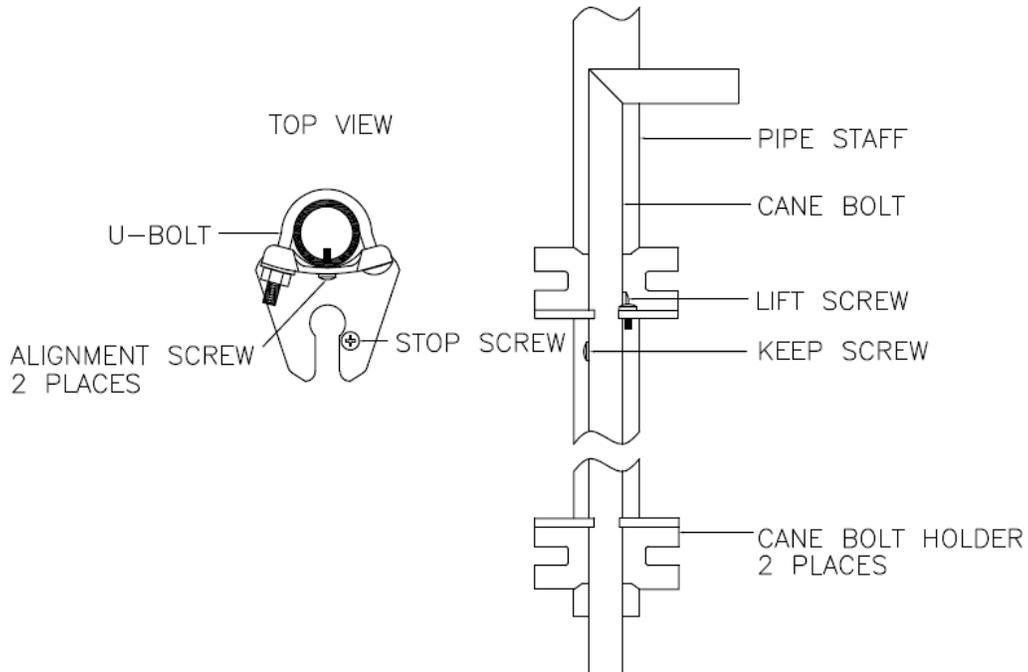

FIGURE 3
5. One pipe staff is used for the leading edge and has no alignment holes. Alignment holes are marked in red and are used for the cane bolt brackets. The leading edge pipe staff goes into the pocket at the end of the curtain that has no cut out for the cane bolt. The other pipe staff will have pre-drilled alignment holes marked in red, they slide into the remaining pockets of the curtain. For curtains with more than one pipe staff, line up the pre-drilled holes on the cane bolt holders with the pre-drilled holes on the pipe staff. Fasten the cane bolt holders, top and bottom with a #10-24 x 1/2 screw to the pipe staff, (the top cane bolt holder pictured has a stop screw and the bottom does not). Use the U-bolts to secure the brackets to the pipe staff. Remove the keep screw from the cane bolt, slip the cane bolt into the holders and tighten keep screw, this locks the cane bolt into the holder. (See Fig 3.)